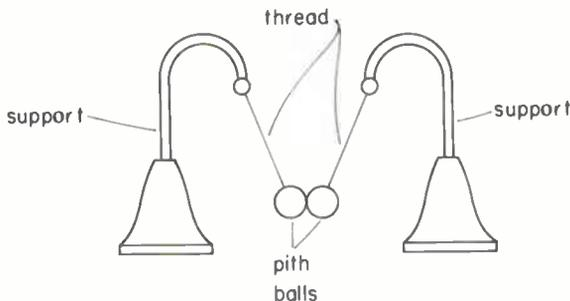

Fig. 16
4. In Fig. 16, the pith balls suspended from the two supports by thread